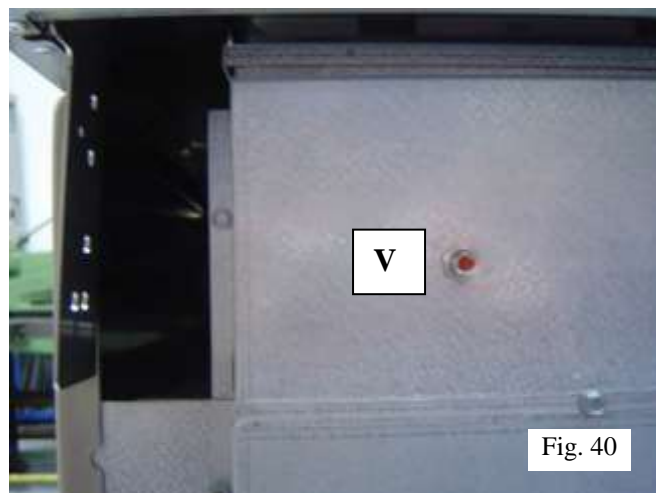

Fig. 40
- 2- Press the knob at the back of the oven marked **V** (fig.40).